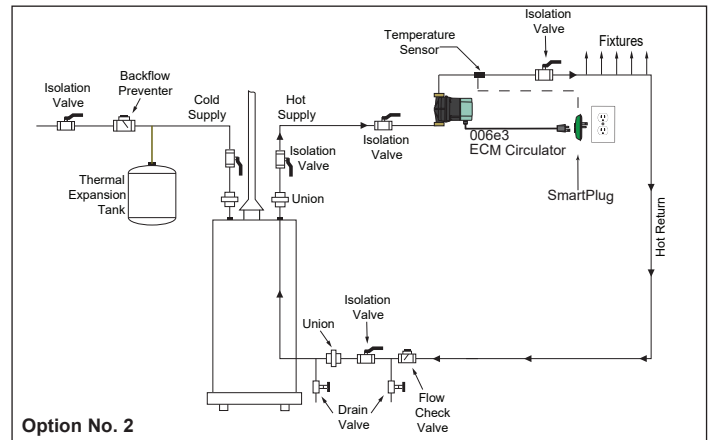

Figure 4: Installation Diagram (For reference only)
1. Install the SmartPlus-e 006e3 circulator in-line on the DHW supply line as shown in Figure 4. Be sure the directional arrow on the casing is installed with the arrow pointing away from the hot water source.
2. Install all other system components as shown in the piping diagram in Figure 4.